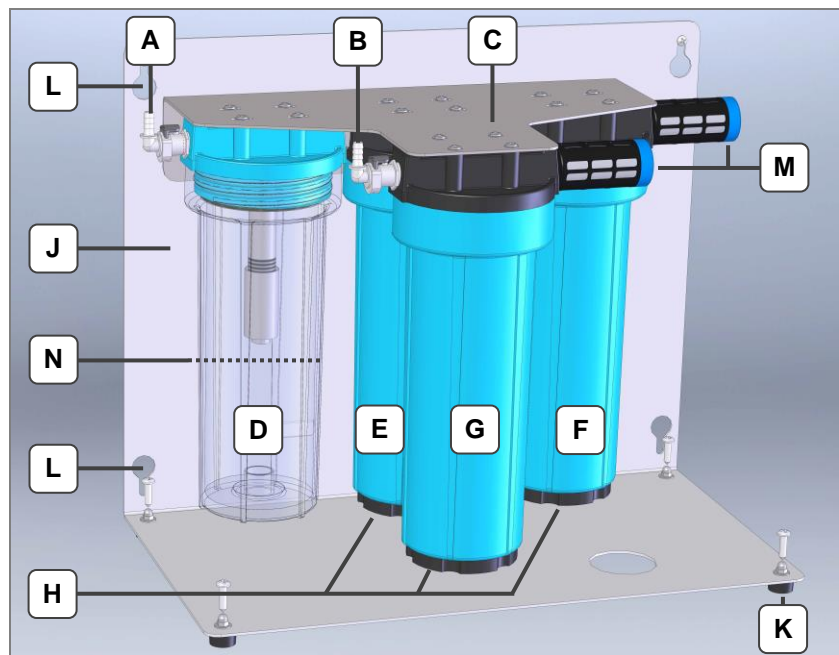

Fig. 14.1.1 Upright activated carbon unit
**Interval** After view, at the latest if the filling level of the separated solvent has risen to approx. 20 mm below the filter in the condensate separator (*Fig. 14.1.1.N*).
**Procedure** Remove the retaining plate (C) with the condensate separator (D) and the activated carbon cartridges (E / F / G). In the case of wall mounting, the condensate separator can be unscrewed while the retaining bracket is attached.
Open the screw plugs (*Fig. 14.1.1.H*) of the activated carbon cartridges one after the other.